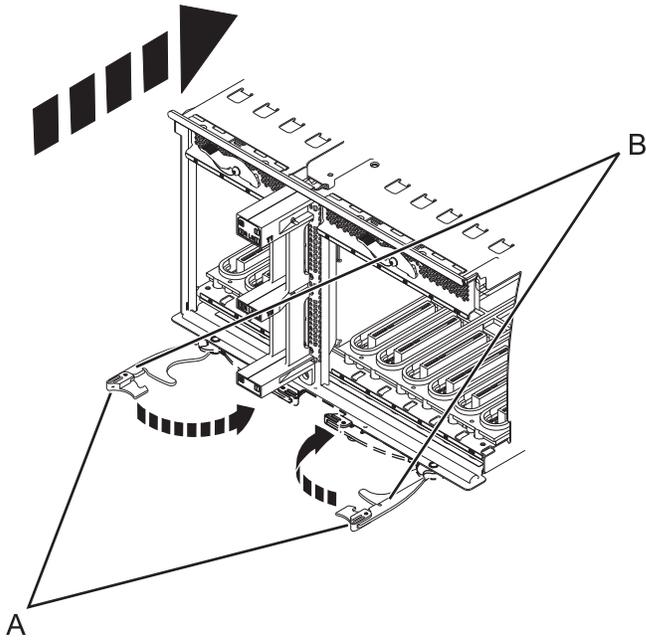

Figure 88. Install the I/O system board on a rack mounted model
- Insert the I/O system board firmly into the server, as shown in Figure 88 on page 125.
- Secure the I/O system board with the locking tabs (A), as shown in Figure 88 on page 125.